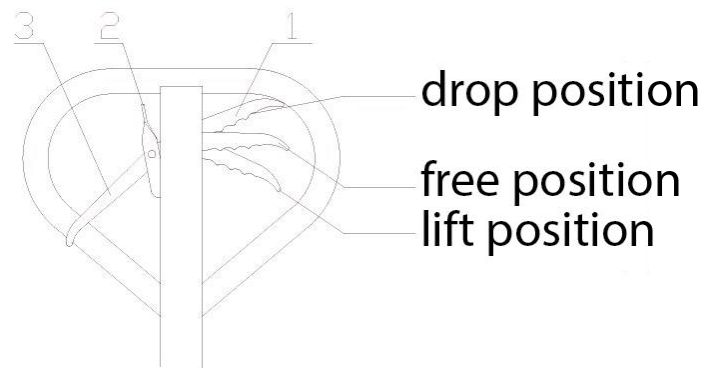

Fig.5
- 4.1 After the truck is assembled, try to rock the hand grip and operate different positions of control handle knob 10 to examine the lifting, free position and dropping and check that whether the different positions are normal or not. See fig 5.
- 5.3 See fig 5, when hand knob 1 is placed on the lift position, the truck will be in a state of lift. At this time, if you rock the hand grip, the truck will be lifted.
- 5.4 See fig 5, when hand knob 1 is placed on the free position, the truck will travel. At this time, if you rock the hand grip, the truck will neither lift nor drop. Then, you can use the truck to move the cargo.
- 5.5 See fig 5, when the hand knob 1 is placed on the drop position, truck forks will drop. At this time, the truck forks will drop automatically.
- 5.6 See fig 5, when the hand knob 3 is placed below, the truck will be in a state of free walking.
- 5.7 See fig 5, when the hand knob 3 is placed above, the truck will be in a state of brake.
5.8 See fig 5, hand knob 2 is used for release brake.